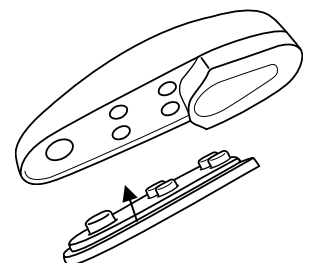

Fig. 10
12. Position the Biplane clamps (with Side Wing fitted) over the existing windshield. Once satisfied with the position, tighten down the Socket head cap screw to secure the Biplane clamps in place (Fig 10)